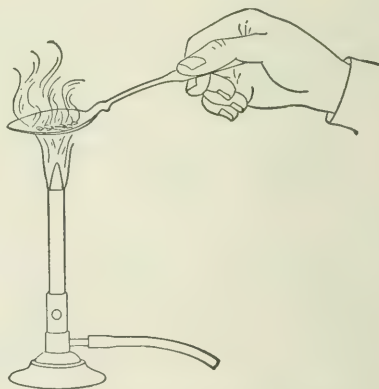

Fig. 15. Heating sugar in an iron spoon.
**c.** Heat a bit of sugar (size of a pea) in an iron spoon as shown in figure 15. Note any flame, smoke, or odor produced. *Record the change in appearance and the relative amount of the residue. Identify it by its properties.*